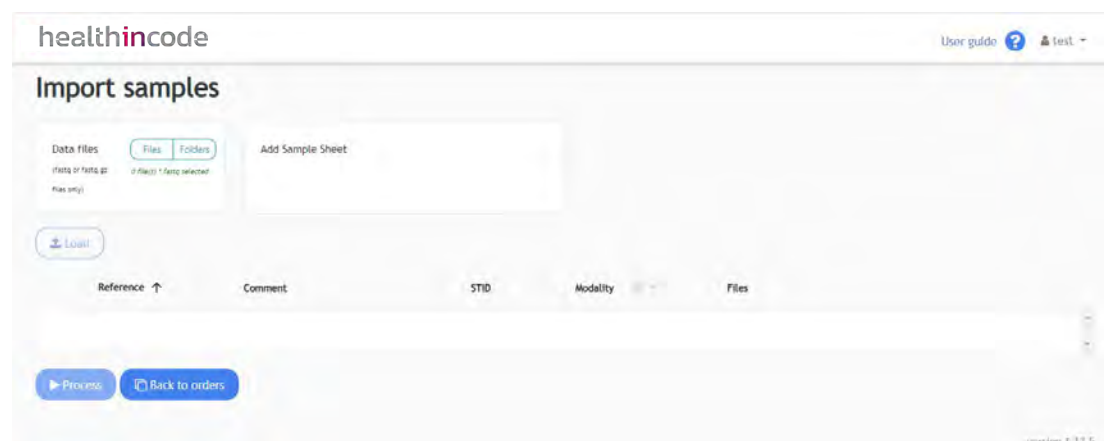

Figure 25. Screen to import *FastQ* files and the *SampleSheet* and launch the analysis request
- 01 Select “*Import Samples*” on the main screen (Orders tab) to launch the analysis of the sequenced samples. This will take you to the file import screen (Figure 25). On this screen, you must import the 12 *FastQ* files associated with each sample, and, optionally, the *SampleSheet* file, which would enable you to simultaneously import all the files from the same sequencing run.